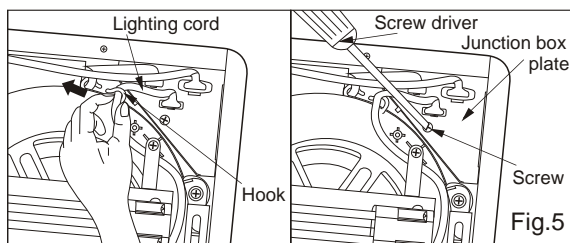

Fig.5
5. Remove the lighting cord out from hook (FV-11VHL2), then remove junction box plate and secure conduit or stress relief to wiring box knock-out hole. (Fig.5)
Replace the junction box plate, and then replace lighting cord to hook. (Fig.5)